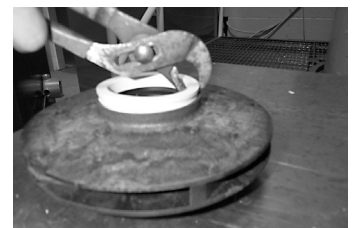

figure 20
1. The impeller thrust ring (item 4A) is removed by grabbing the top of the ring with pliers and pulling with a twisting motion. Be careful not to damage the bore or face of the front impeller shroud. See figure 20.